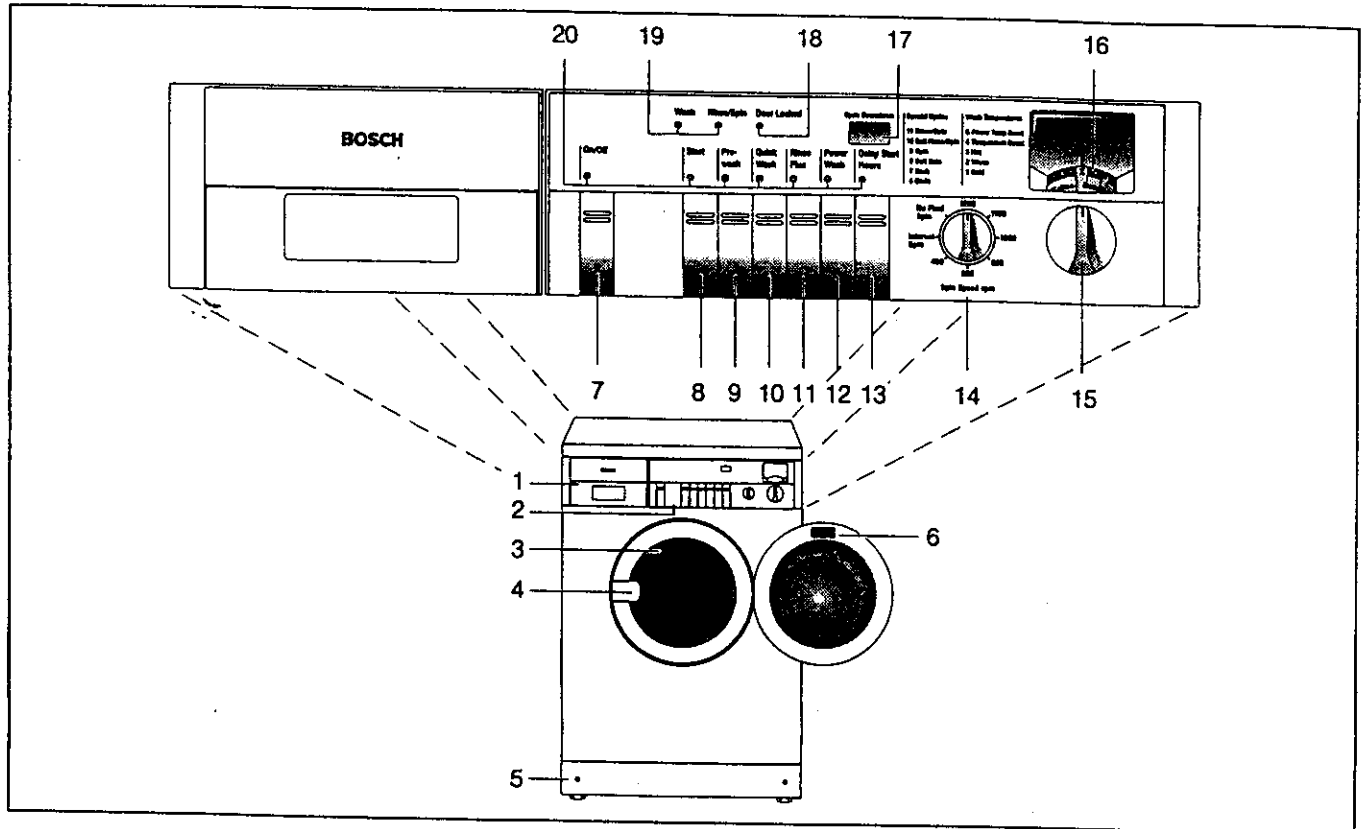

Figure 1.
Figure 1 is an illustration of a typical Bosch washing machine showing the location of the following:
The "Door Locked" indicator light, see Figure 1, item 18, will become illuminated, whenever the door is locked. The door locks automatically when water enters the machine and remains securely locked during running of cycle. Locking of the door is a safety feature. Do not attempt to bypass this or any other safety feature.
6. Set cycle selector to **REGULAR/COTTON (5)** (Power Temp.Boost).
Pull the dispenser drawer, see Figure 1, out as far as it will go and add detergent and softener as required. See following section titled **USING THE DISPENSER DRAWER**.
Set the cycle selector knob (item 15, figure 1) to the cycle desired.
Please refer to the **CYCLE SELECTION CHART**, Table 1, for description/explanation of the wash cycles (fabric type/wash temperature combinations) as well as an explanation of the special cycles. You will also find, directly to the left of the Cycle Selector window, see Figure 1, a table giving a short description of the wash temperatures and **SPECIAL CYCLES** available.
The spin speed selector (item 14, figure 1) may be left in the "normal" position, which is straight up. The washer will then spin at the highest speed allowed for the cycle selected. See following section titled **SPIN SPEED SELECTION** for detailed explanation of selection possibilities.